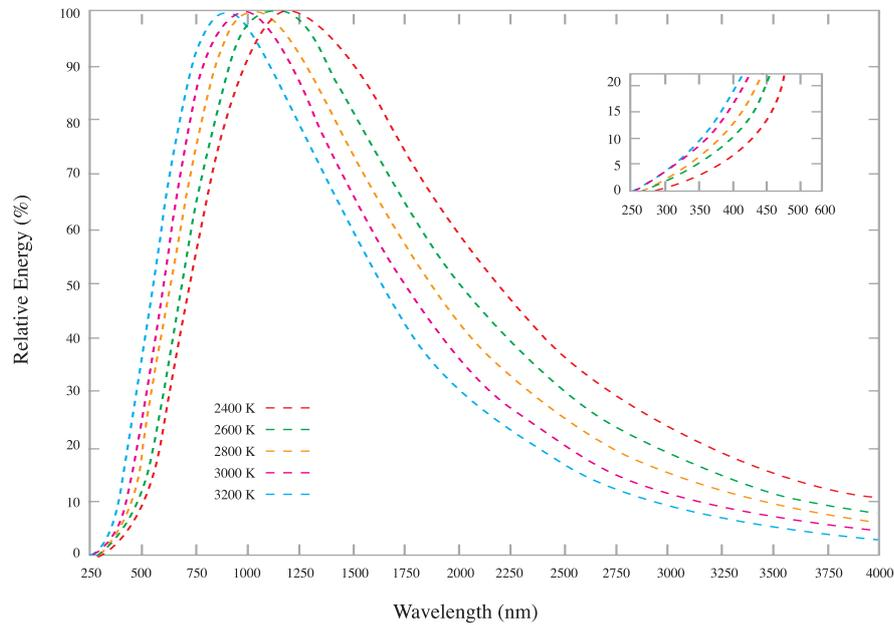

Figure 1. Spectral distribution of light emitted by blackbodies at various color temperatures indicated in Kelvin (K)
The ASB-W-030 is a complete light source assembly with a tungsten-halogen lamp that emits in the 300 to 2600 nanometer (nm) wavelength region. It has been designed to transfer the maximum possible illumination from a tungsten-halogen lamp to Digikrom monochromators. The tungsten-halogen lamps of the ASB-W-030 are near blackbody sources of light with fused silica envelopes around the lamp filaments. Figure 1 shows blackbody spectral distributions at various color temperatures in Kelvin (K). The ASB-W-030 spectral distributions resemble those of Figure 1 out to about 2600nm, beyond which the transmission of the fused silica lamp envelope limits the output.